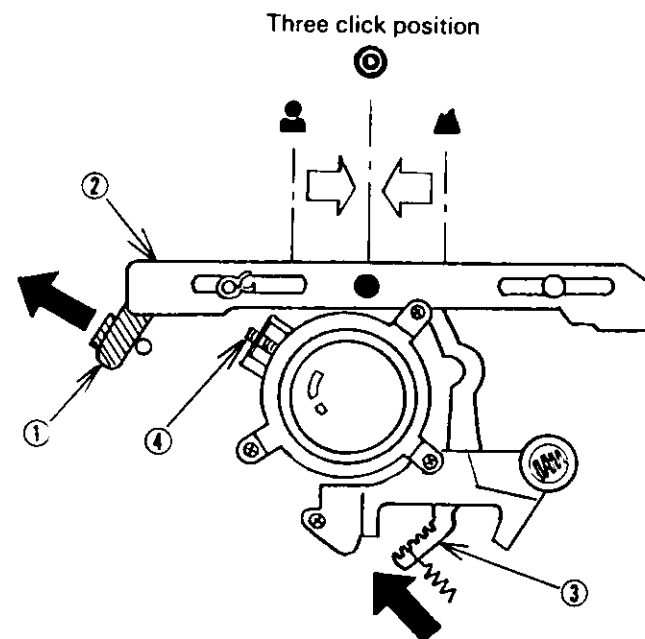

Fig. 21
1. Lens Focus Adjustment (Fig. 21)